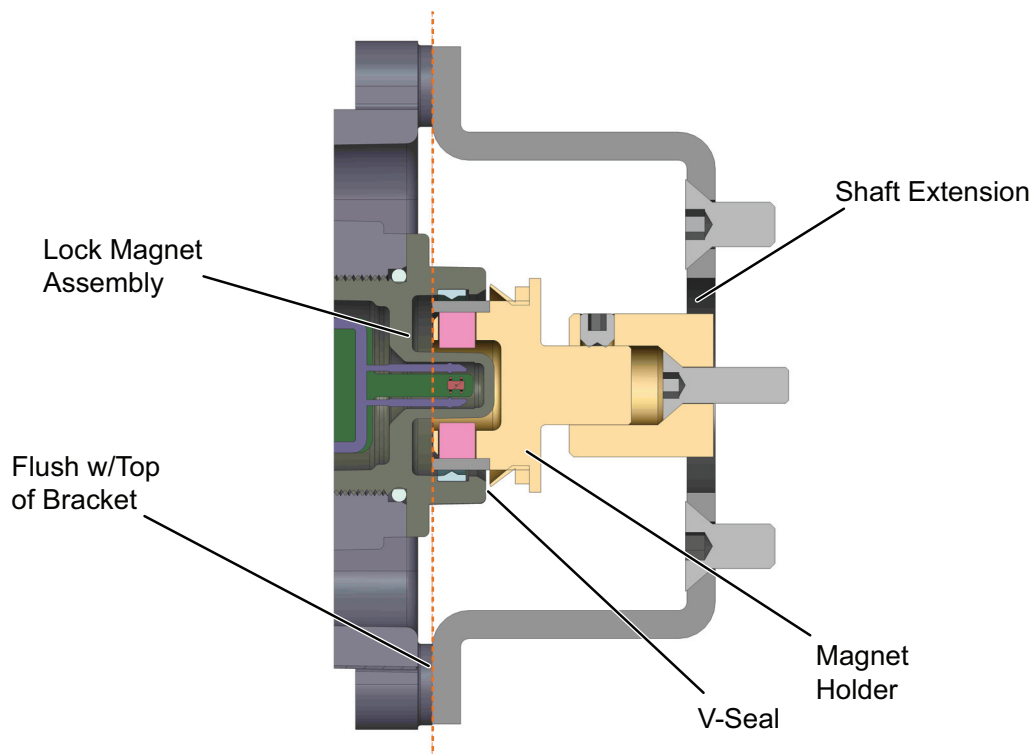

Figure 10 Camflex with Mounting Bracket (Side View)
6. Align the end of the magnet holder flush with the end of the mounting bracket (Red Dotted line in the Figure 10 on page 29). Secure the magnet holder with two M6 set screws using 6mm Hex Key.